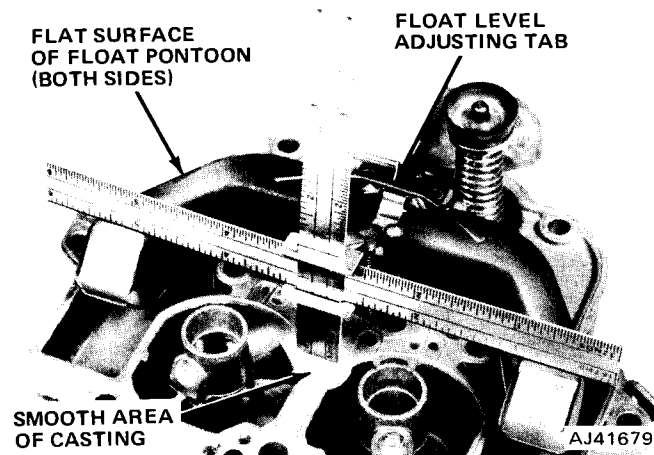

Fig. 4-74 Float Adjustment
(1) Invert air horn assembly and remove gasket.
(2) Measure distance from float pontoons to air horn casting using a T-scale. Position horizontal scale over flat surface of both float pontoons at the free ends, parallel to air horn casting. Hold lower end of the vertical scale in full contact with the smooth area of air horn casting, located midway between the main discharge nozzles (fig. 4-74).